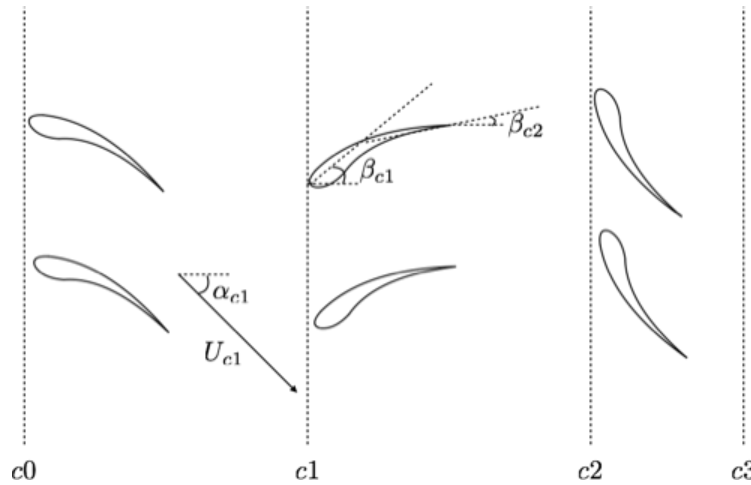

Figure 7: Schematic of the the first compressor stage with station numbering.
- (a) (5 pts) For a single compressor stage (consider the first stage after the inlet guide vane) shown in Fig. 7, complete the velocity triangle across the rotor at the pitchline r_m . Assume the following quantities as known: the inlet velocity U_{c1} , the angle of attack of the flow after the inlet guide vane α_{c1} , the angular velocity of the compressor Ω , the relative angle at the rotor leading edge β_{c1} , and the relative angle at the rotor trailing edge β_{c2} . Express $U_{c1,\theta}$, $U_{c2,\theta}$, and α_{c2} using the known quantities.